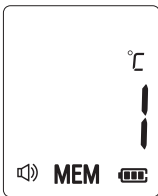

Figure 12
1. When the thermometer has been turned on and followed by Figure 6 or finished testing, press and hold the Button for three seconds. The letter MEM will appear at the bottom of the display. (See Figure 12)